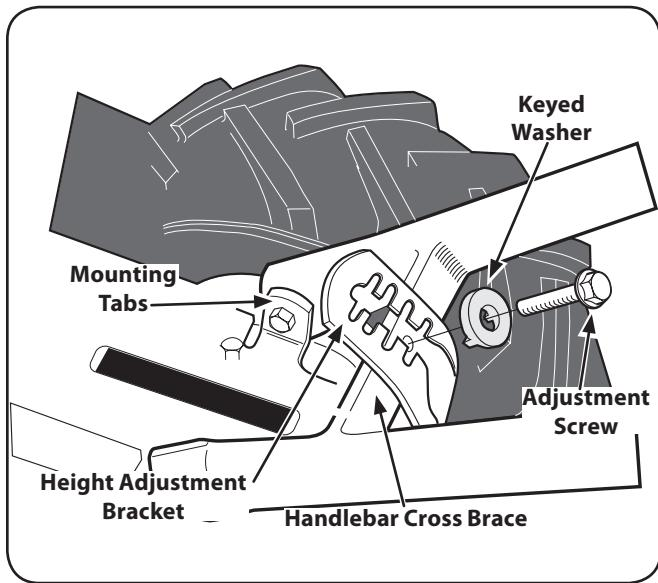
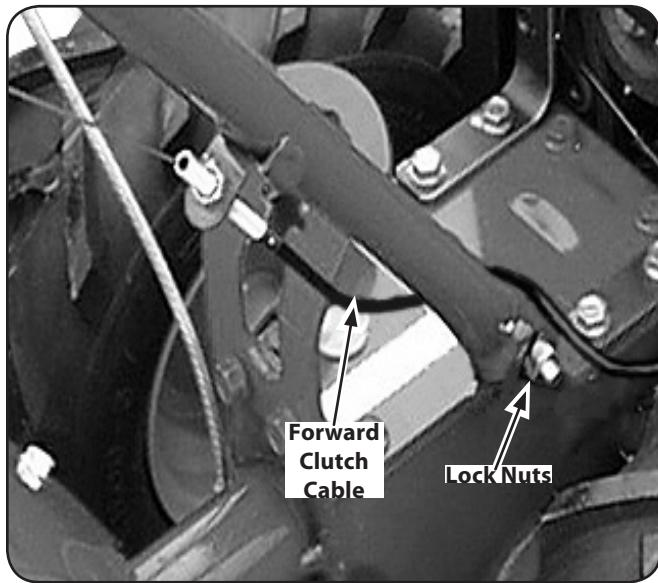

Figure 3-2
Figure 3-3
- Gently lift the handlebar (do not overstretch the attached cable) and place the handlebar cross-brace in front of the curved height adjustment bracket. See Figure 3-2.
- With the forward clutch cable on the inside of the handlebar (See Figure 3-3), position the handlebar ends on the outside of the two mounting tabs shown in Figure 3-2 on the transmission top cover.
**NOTE:** The curved handlebar height adjustment bracket appears as shown in Figure 3-2 for non-electric start tillers. For electric start machines, the bracket is loosened and moved to one side.
- Loosely attach the handlebars to the mounting tabs with two  $\frac{3}{8}$ -16 x 1" screws (heads of screws go to inside of tabs),  $\frac{3}{8}$ " flat washers and  $\frac{3}{8}$ "-16 lock nuts. See Figure 3-3.
- Move the handlebars up or down to align the threaded hole in the cross brace with one of the four slots in the curved height adjustment bracket. Place the keyed washer on the flange head height adjustment screw with the raised edges of the washer facing down. See Figure 3-2.